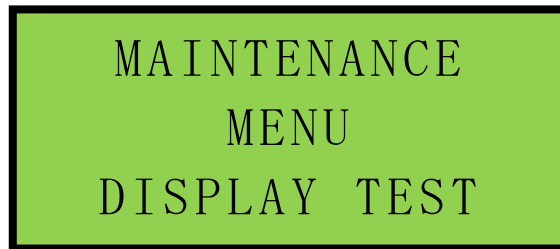

Fig.8.14 — Display Selection Screen
- 6) Press the <F3> key and the Maintenance Menu Screen selection screen will appear. Refer to Fig. 8.14.